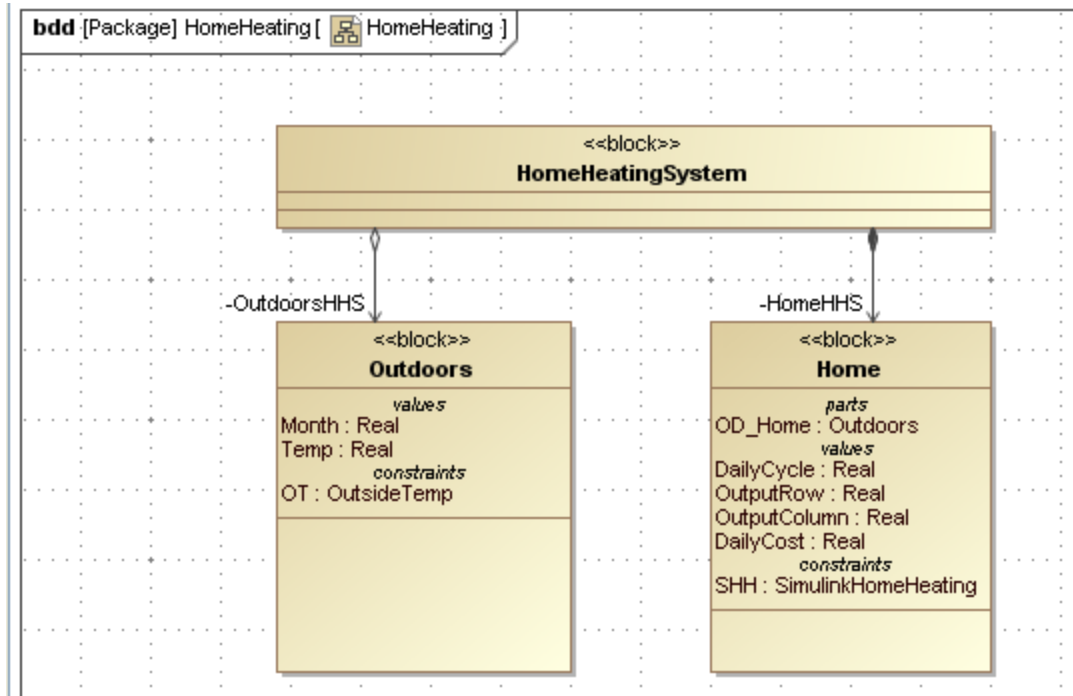

Figure 7.2 Block Definition Diagram for HomeHeating model
- b. Create a block definition diagram, Name = **HomeHeating**, and drag the blocks into the diagram. See Figure 7.2. Note that we use a Directed Composition connector to link **HomeHeatingSystem** to **Home** but reference the **Outdoors** block with a Directed Aggregation arrow.
- c. Create the Value Properties shown in Figure 7.2. All are Real with a multiplicity of 1.